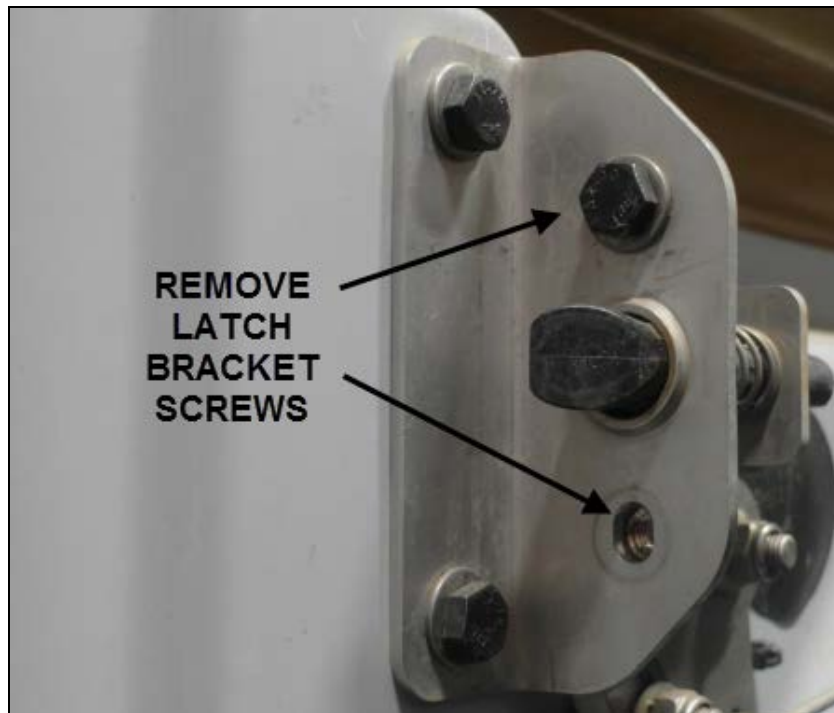

FIG.5 LATCH BRACKET SCREWS
- Remove the two latch pin bracket screw to free the bracket and pin from the door support (Fig.5).